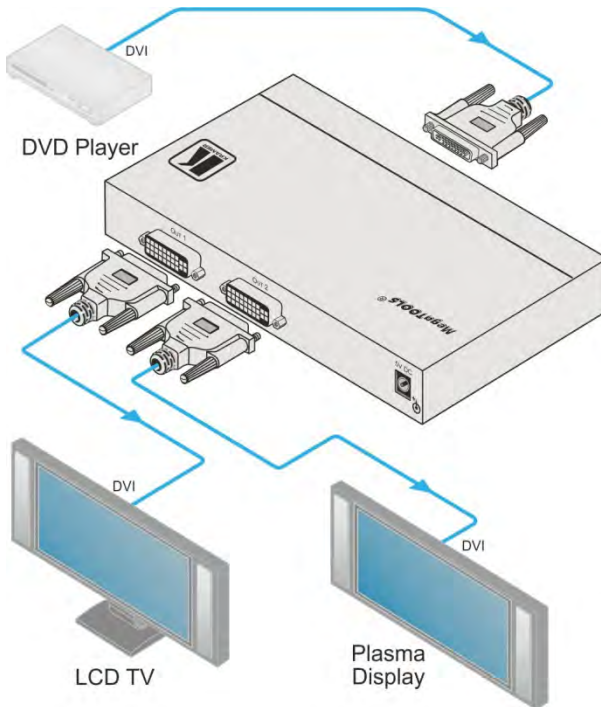

Figure 3: Connecting the VM-300HDCP 1:3 DVI Distributor
To connect the **VM-300HDCP** as illustrated in the example in Figure 3:
3. Connect the power adapter to the **VM-300HDCP** and to the mains electricity (not shown in Figure 3).